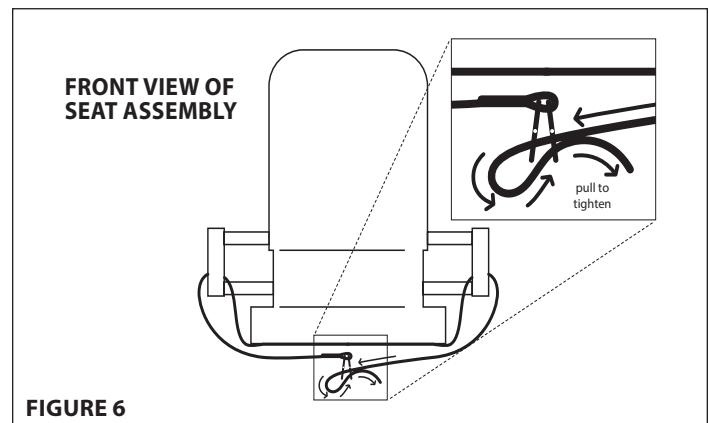

FIGURE 6
4. Attach padded seat (48103) by feeding straps around the lower portion of seat frame. Feed the long strap through both metal tri-slides that are sewn to opposite side of strap. Wrap the long strap back around one tri-slide and through the second tri-slide and pull tight. **SEE FIGURE 6.** Repeat the same operation for the other seat strap. Adjust as needed to achieve desirable seat height. Excess strap can be tucked away using provided Velcro tabs under the seat.
5. Attach (2) provided 9" camo arm pads (48736) to upper portion of seat frame weldment by wrapping around tubing and attaching Velcro together.